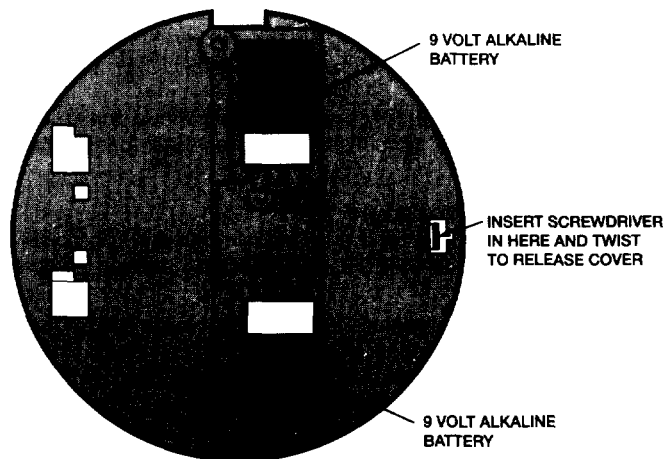

Figure 3. Bottom View of Smoke Detector (mounting bracket removed)
To gain access to the PC board and DIP switch, insert the blade of a small screwdriver into the opening in the detector base (see Fig. 3 for location) and twist. This will release the main cover which will then swing away, providing access to the interior of the detector, as shown in Figure 2. Set the switches as required, using the DIP switch table provided.
1. The detector's battery compartment cover/mounting bracket should have been removed, as previously indicated. See Figure 3.